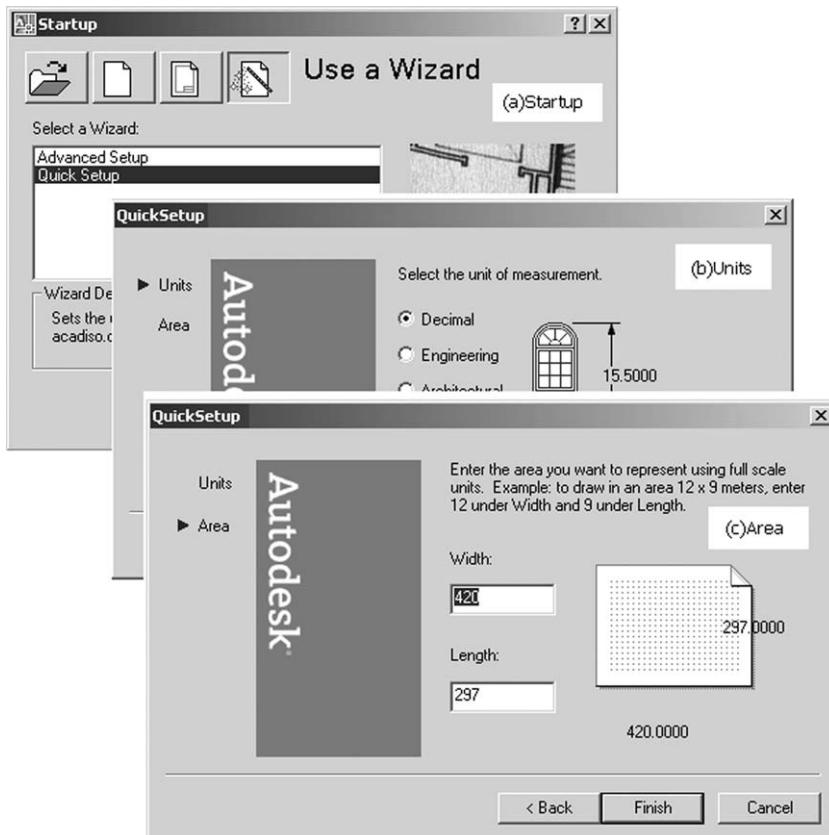

Figure 3.1 The 'Use a Wizard' method of starting a drawing.
respond a) pick Quick Setup – Figure 3.1(a)
respond a) Select Decimal Units – Figure 3.1(b)
b) enter Length: 297 – Figure 3.1(c)